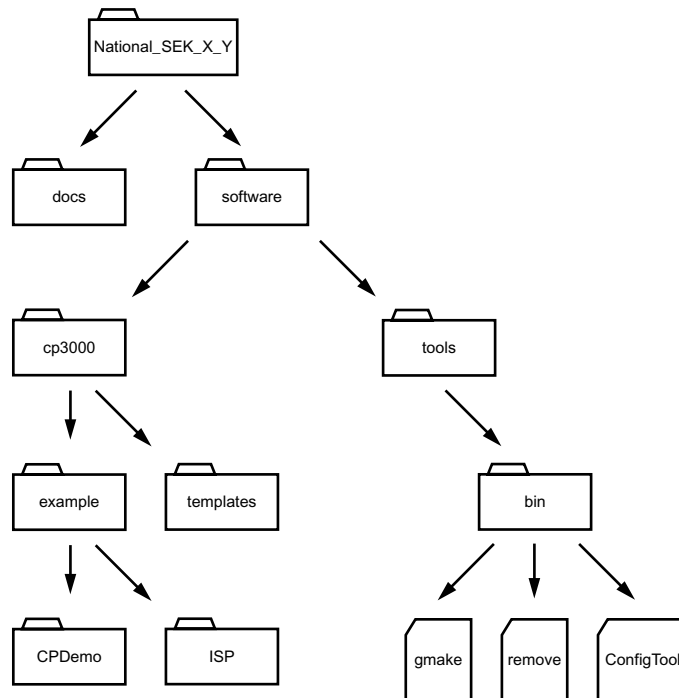

Figure 4-2. Organization of Files Loaded by the NSC Software Installation
- **NSC Software**—application examples and template files for creating new applications. The template files configure winIDEA to call the NSC tool chain. The top-level structure of the NSC software installation is shown in Figure 4-2.